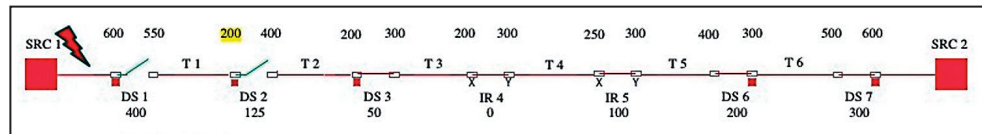

Figure 20. The switch DS2 cannot close to support the excessive load, and switch DS1 remains open to isolate the fault.
- STEP 9.** Switch DS2 is not allowed to close because the switch maximum capacity on the downstream requesting side is insufficient and because the alternate source has insufficient capacity. Either alone would of course prevent the restoration. See Figure 20.